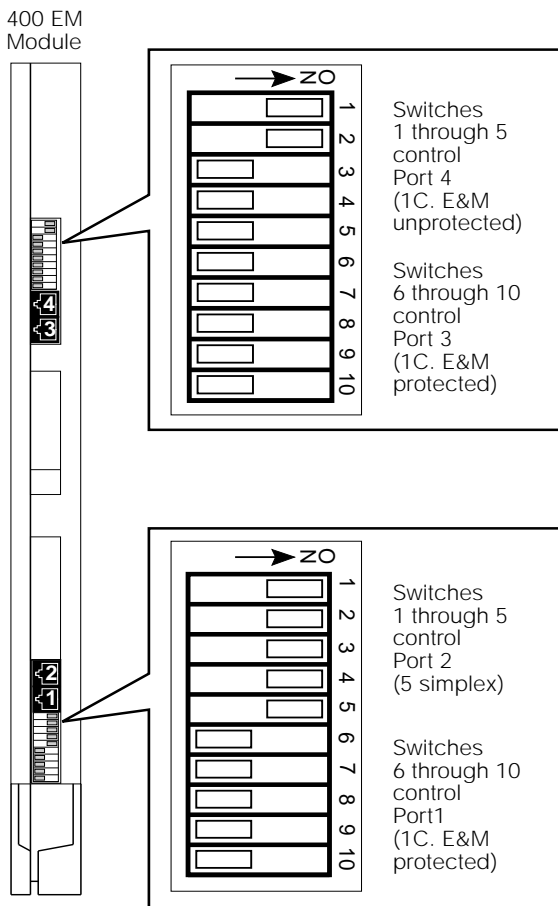

Figure 2-11. 400EM Module Sample Dip Switch Settings for Signaling Types 1C and 5
- ▶ **1. For each 400EM tie line/trunk module, for jacks numbered 1 through 4 in Figure 2-11, check Form 3c, Incoming Trunks: Tie, for E&M signaling type.**
Set the dual in-line packaging (DIP) switches on the front of the 400EM Tie Trunk module according to the E&M signaling type settings listed in Table 2-4 and Table 2-5 and shown in Figure 2-11. The default E&M signal does not require any adjustments in the DIP switches.
During installation of 400EM (Tie Trunk) modules, refer to Table 2-4 and Table 2-5, and to Figure 2-11 for the correct DIP switch settings for varying signaling protocols.